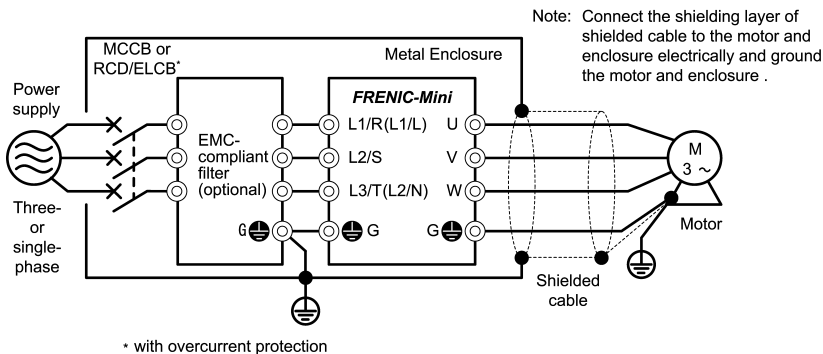

Figure 11.6 Installing the Inverter with EMC-compliant filter into a Metal Enclosure
- 3) If noise from the inverter exceeds the permissible level, enclose the inverter and its peripherals within a metal enclosure as shown in Figure 11.6.